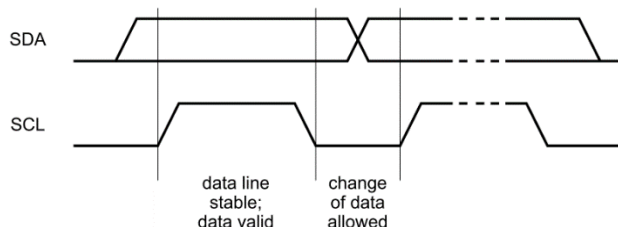

Figure 10-6. Bit transfer on the I2C bus
(1) See figure10-6 for the GPIO2 power share PDP management. V_{BUS} exceeds 11.2V to trigger power share function (GPIO2 input voltage > 1.87V).
(2) TVS diodes are required to pass the $\pm 8\text{kV}$ contact and $\pm 15\text{kV}$ air discharge per IEC ESD specifications.